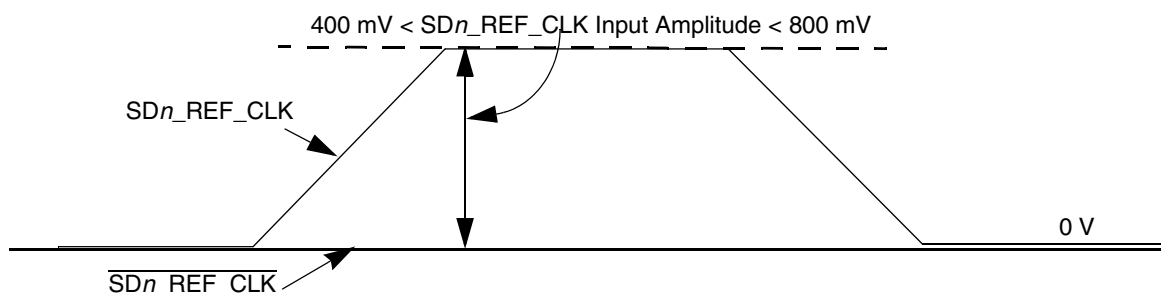

Figure 55. Single-Ended Reference Clock Input DC Requirements
- The SDn_REF_CLK input average voltage must be between 200 mV and 400 mV. Figure 55 shows the SerDes reference clock input requirement for single-ended signaling mode.